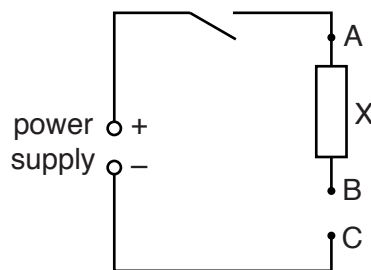

Fig. 4.1
Sufficient connecting leads to enable the **Supervisor** to set up the incomplete circuit shown in Fig. 4.1 (see Note 3).
- ensure that the circuit is set up as in Fig. 4.1 with the switch open.